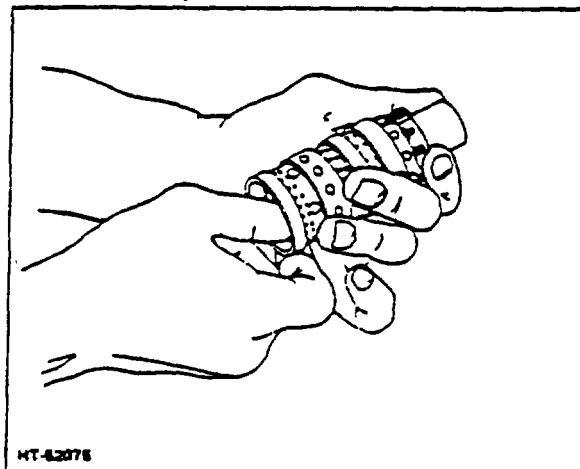

Figure 16. Removing Spool From Sleeve
18. Push inside lower edge of spool so the spool moves toward the splined end, and remove spool carefully from the sleeve (Fig. 16).